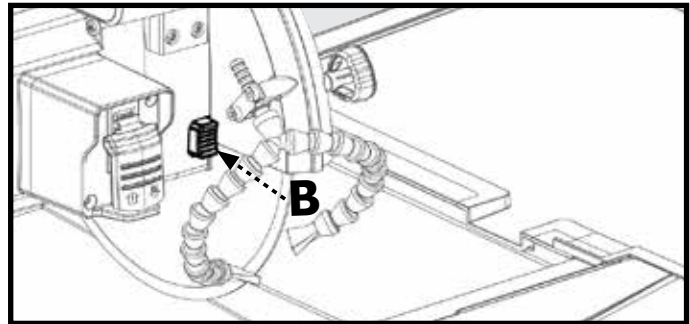
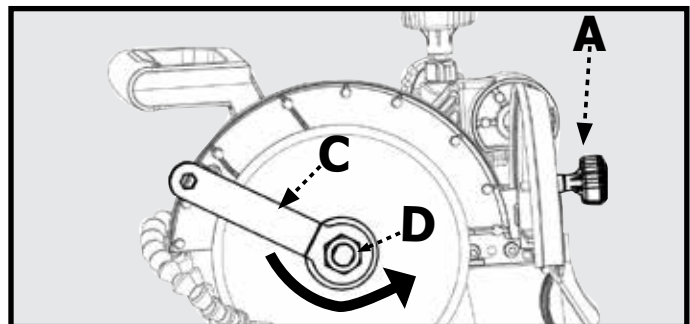

Figure 26
Figure 27
1. Loosen the blade cover lock knob (A, Fig. 27).
2. Swing the blade cover (6) open
4. Depress the blade spindle lock (B, Fig. 26) and use the blade wrench (C, Fig. 27) to loosen the arbor lock nut (D, Fig. 27)
7. Place the new blade on the arbor so that the arrow on the blade is pointing in the same direction as the arrow on the blade cover. (See Figure 27)